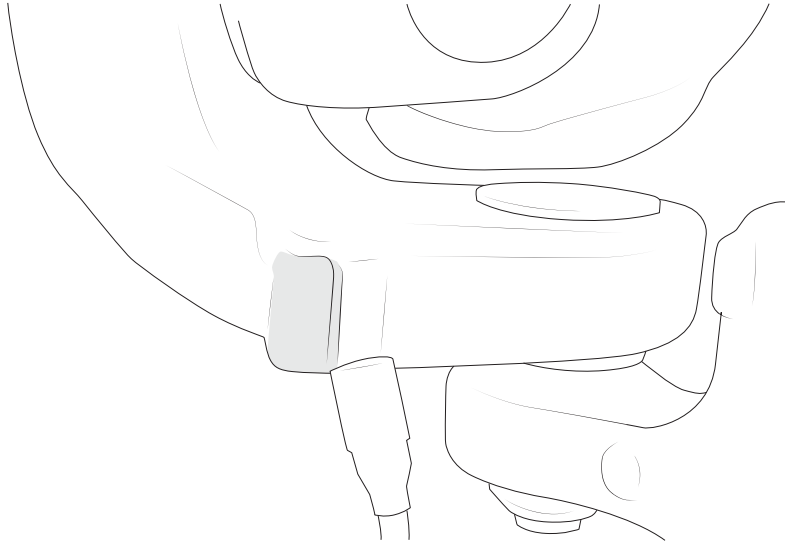

Figure 49
3. Weld the new steering stop onto the axle. You can hold this in place easily with a magnet during welding (fig. 49).